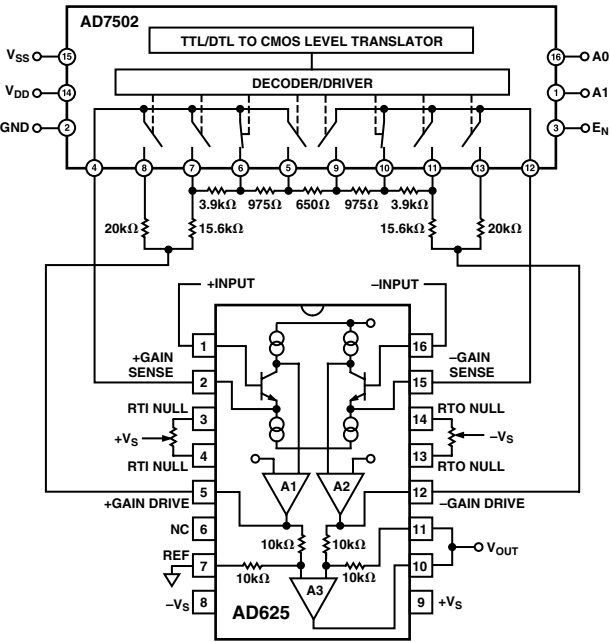

Figure 38. SPGA in a Gain of 16
Figure 38 shows an AD625 based SPGA with possible gains of 1, 4, 16, 64.  $R_G$  equals the resistance between the gain sense lines (Pins 2 and 15) of the AD625. In Figure 38,  $R_G$  equals the sum of the two 975 Ω resistors and the 650 Ω resistor, or 2600 Ω.  $R_F$  equals the resistance between the gain sense and the gain drive pins (Pins 12 and 15, or Pins 2 and 5), that is  $R_F$  equals the 15.6 kΩ resistor plus the 3.9 kΩ resistor, or 19.5 kΩ. The gain, therefore equals:
can be used to calculate the necessary feedback resistors for any set of gains. This formula yields a network with a total resistance of 40 kΩ. A dummy variable (j) serves as a counter to keep a running total of the preceding feedback resistors. To illustrate how the formula can be applied, an example similar to the calculation used for the resistor network in Figure 38 is examined below.
- 2) Before making any calculations it is advised to draw a resistor network similar to the network in Figure 41. The network will have  $(2 \times M) + 1$  resistors, where M = number of gains. For Figure 38 M = 3 (4, 16, 64), therefore, the resistor string will have seven resistors (plus the two 20 kΩ “side” resistors for unity gain).
- 5) If different resistor values are desired, all the resistors in the network can be scaled by some convenient factor. However, raising the impedance will increase the RTO errors, lowering the total network resistance below 20 kΩ can result in amplifier instability. More information on this phenomenon is given in the RPGA section of the data sheet. The scale factor will not affect the unity gain feedback resistors. The resistor network in Figure 38 has a scaling factor of  $650/625 = 1.04$ , if this factor is used on  $R_{F_1}$ ,  $R_{F_2}$ ,  $R_{F_3}$ , and  $R_G$ , then the resistor values will match exactly.